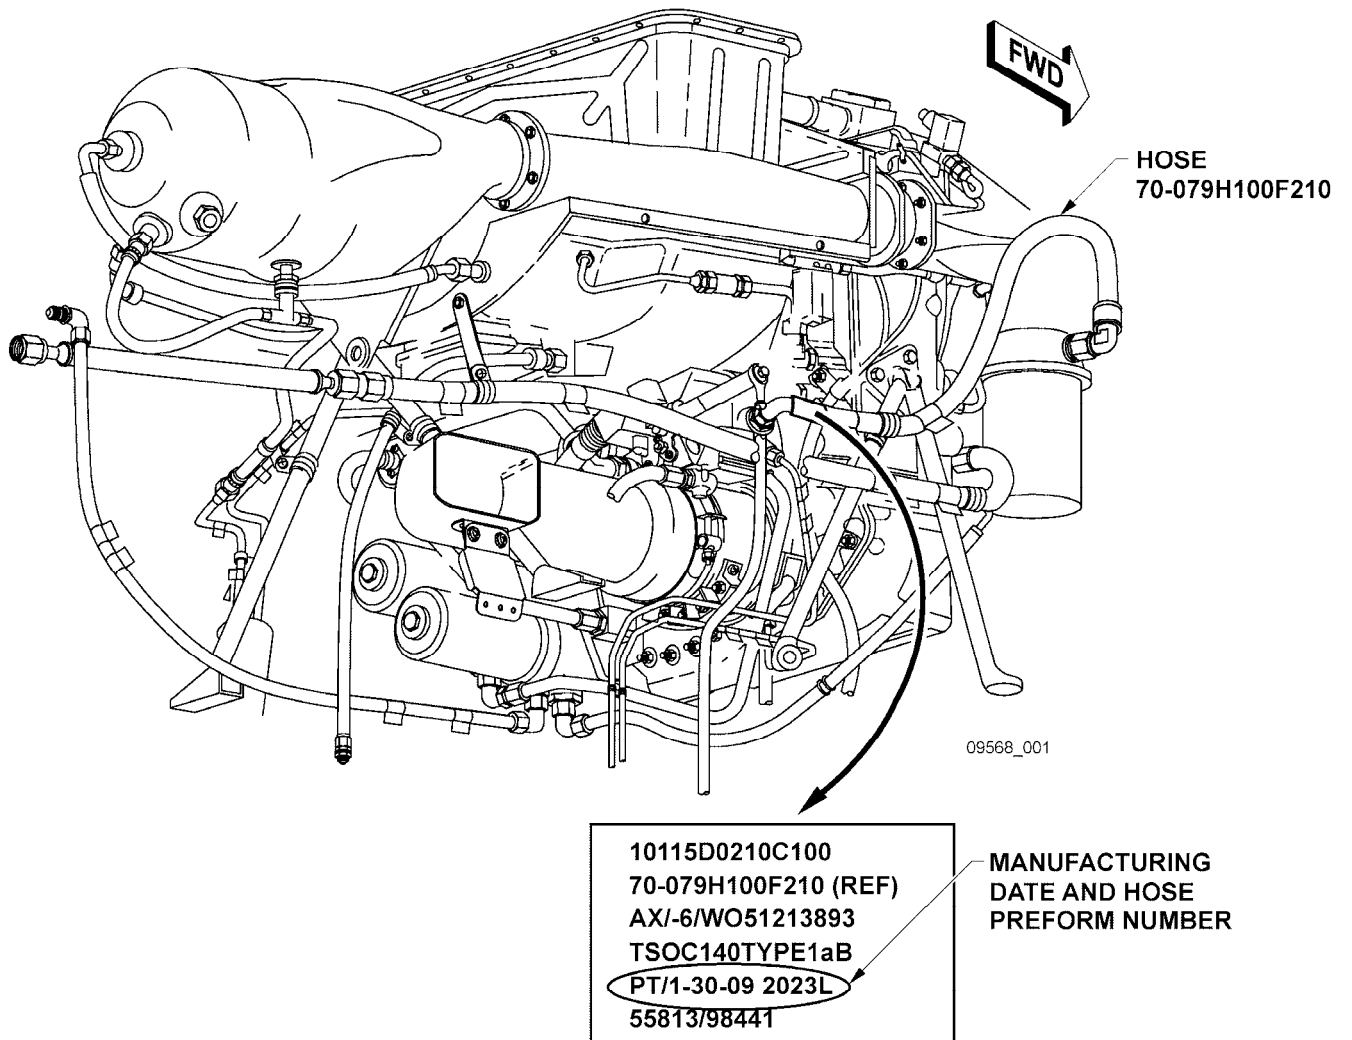

Figure 1 – Hose Identification Tag
1. Gain access to the affected hose (see Figure 1) and locate hose identification tag.